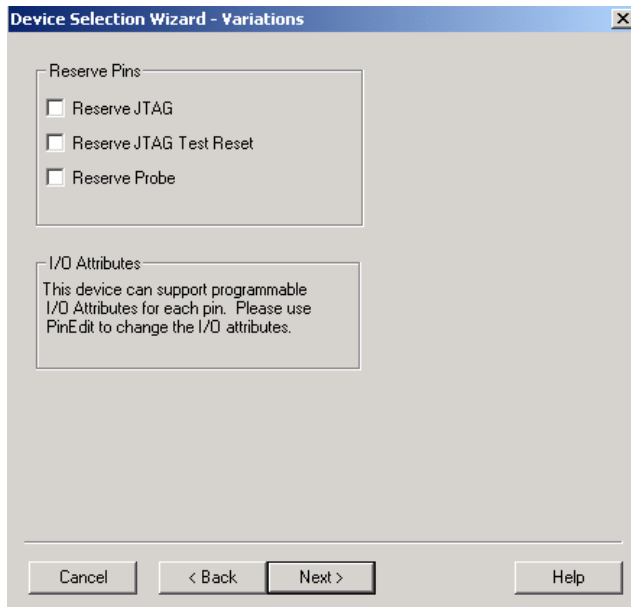

Figure 2-18. Device Selection Wizard, Device Variations (Screen Varies Depending Upon Device)
- 4. **Click *Next*.** The Device Selection Wizard prompts you to set Variations, as shown in Figure 2-18.